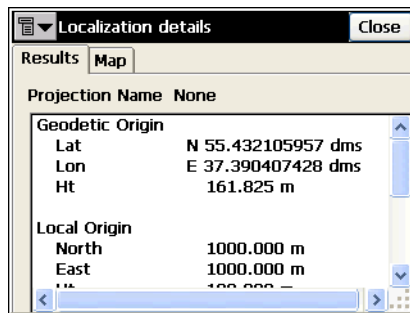

Figure 6-3. Localization Details
- The parameters of the localization are available through the **Details** button (Figure 6-3 on page 6-4).